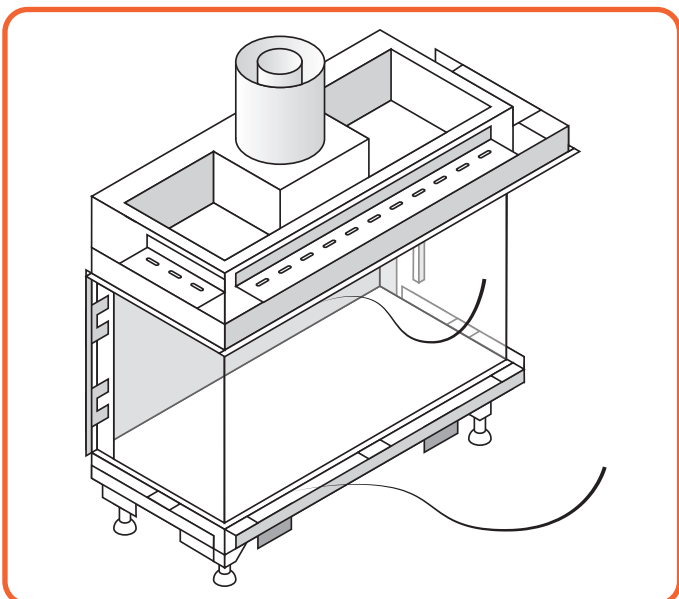

Figure 10.4 - Removing Glass Cords
- Remove the glass cords. (See **Figure 10.4**)